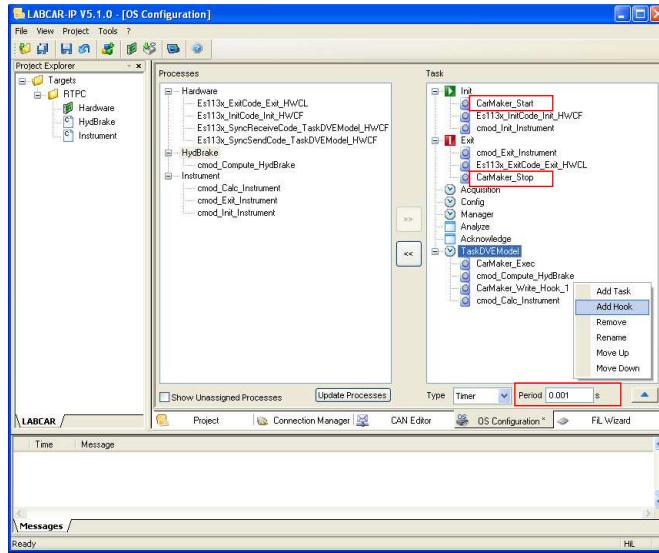

Figure 1.28: Placing hooks in LABCAR Integration Platform (IP)
To use a RT Plugin, a so called hook has to be placed at a suitable position within the LABCAR process list. This hook defines the calling context of the RT Plugin. For defining a new hook, open the LABCAR Integration Platform (IP), load your project and change to the tab "OS Configuration". To add a hook between two processes, right-click at the appropriate position within the task list and select "Add Hook" (see Figure 1.28 on page 50).